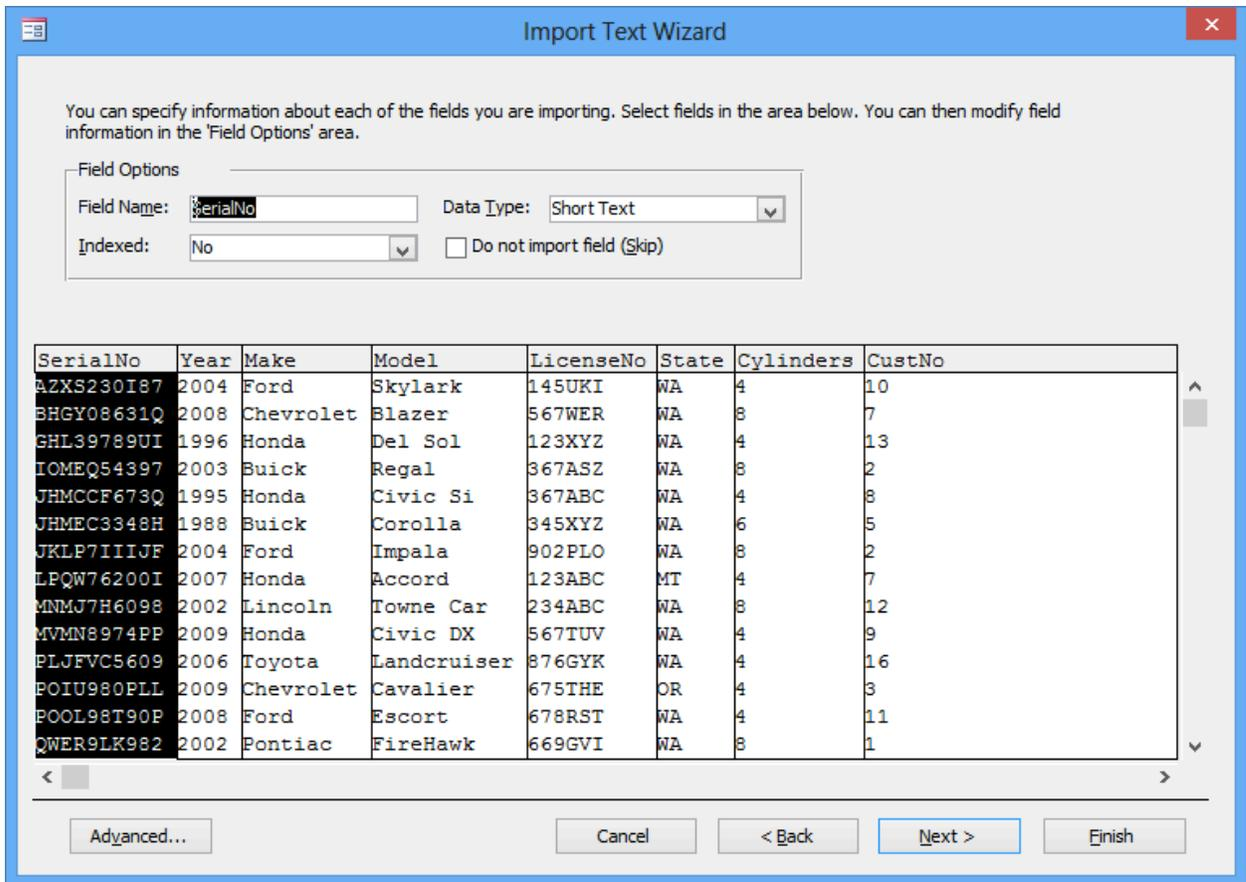

Figure 40: Field Modification in the Import Text Wizard
6. Select the Fields: In the next window (Figure 40), you should keep all fields since you can make changes later in the Design View window. Click the **Next >** button.